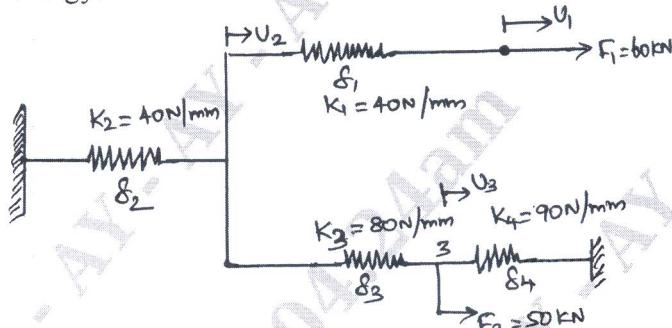

Fig. Q.2(a)
2. a. For the spring shown in Fig.Q.2(a) determine the nodal displacements using principle of minimum potential energy.